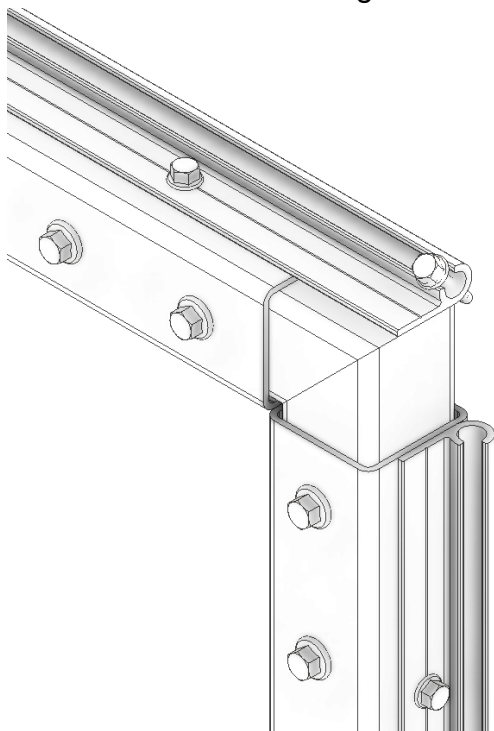

fig.3
STEP 3. Screw in the angle bracket using self-drilling screws 6.3x25 pic.3, fig.3